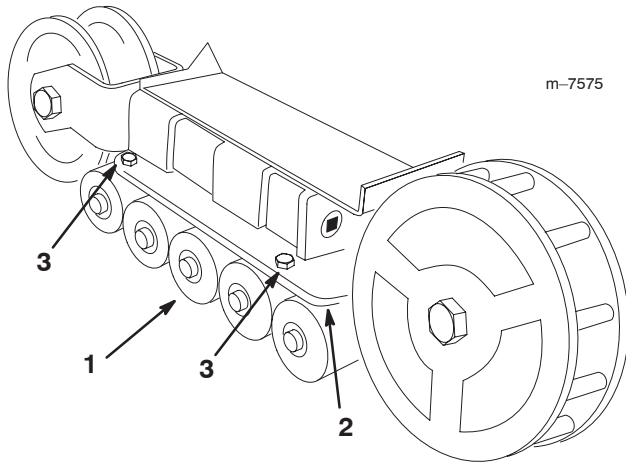

Figure 50
2. Remove the 4 bolts securing each lower track guide which contains the road wheels, and remove them (Fig. 50).